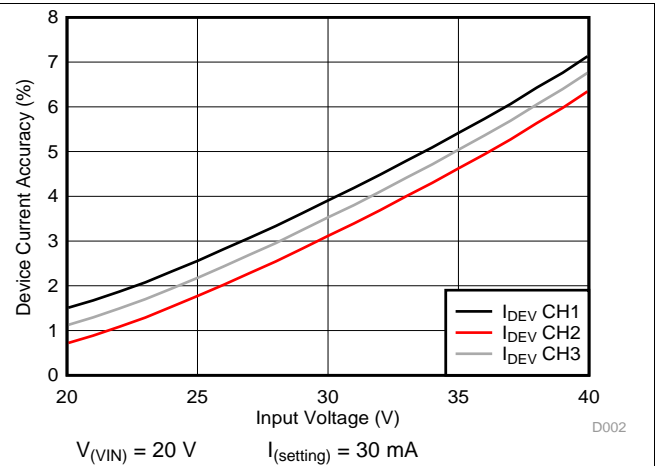
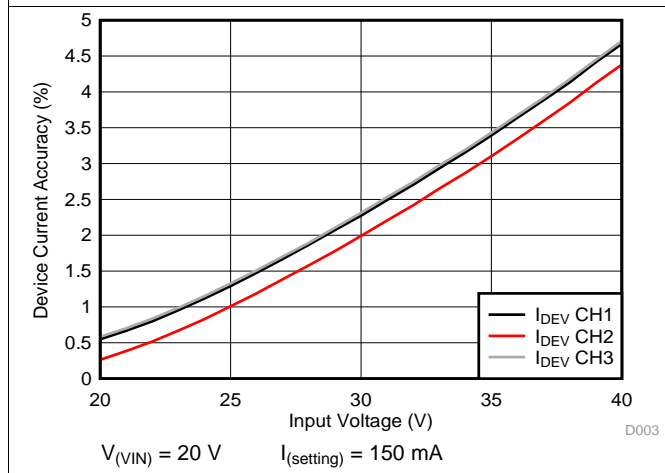

Figure 2. Device Current Accuracy vs Input Voltage
Figure 3. Device Current Accuracy vs Input Voltage
(2) For $V_{(VIN)}$ voltages higher than 20 V, see Figure 2 and Figure 3.